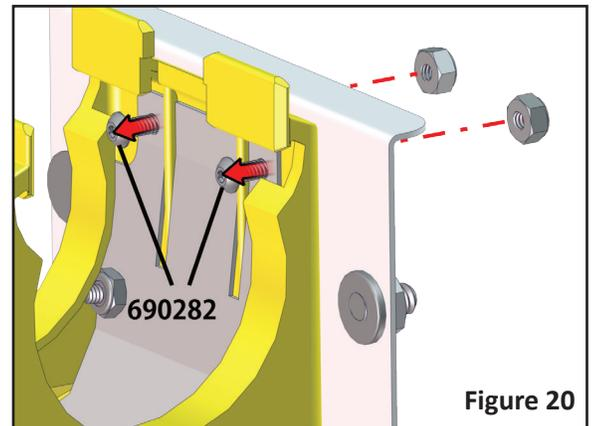

Figure 20
6. Remove the two (2) 690282 screws holding the paddle assembly to the mounting bracket, as shown in Figure 20 .